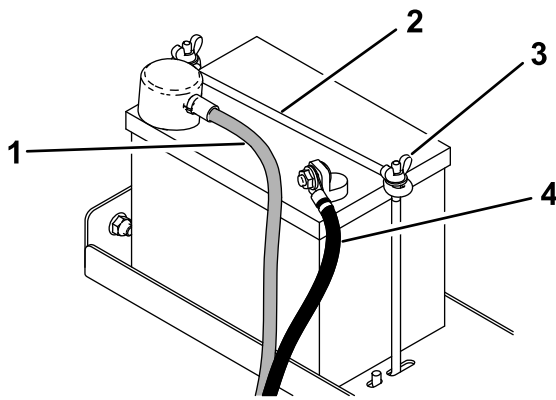

Figure 31
3. Remove the negative battery cable from the battery (Figure 31).
4. Remove the positive battery cable from the battery (Figure 31).
5. Remove the 2 wing nuts, securing rod, and the battery (Figure 31).
1. Place the battery on the platform and secure it using the 2 wing nuts and the securing rod (Figure 31).
2. Install the positive battery cable to the battery (Figure 31).
3. Install the negative battery cable to the battery (Figure 31).